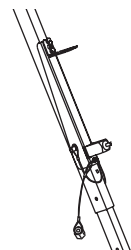

Fig.10
- Replace the spring pin and the spindle (fig. 10).